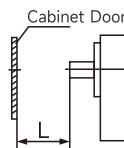

Figure 23
(1) As shown in Figure 23, fix the switch vertically on the mounting plate inside the switch cabinet and place it in the off "0" position. Then measure the distance L from the top of the switch square axis to the inner surface of the cabinet door.